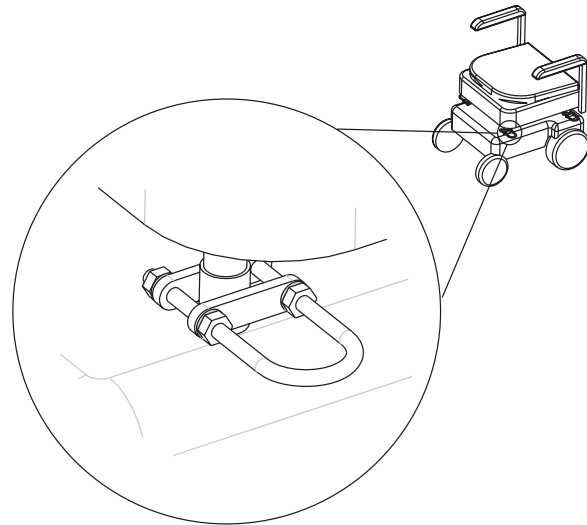

Figure 4-60
2. Ensure that the loop extends to the outside of the chair so the user can attach the strap hooks. **See Figure 4-60.**